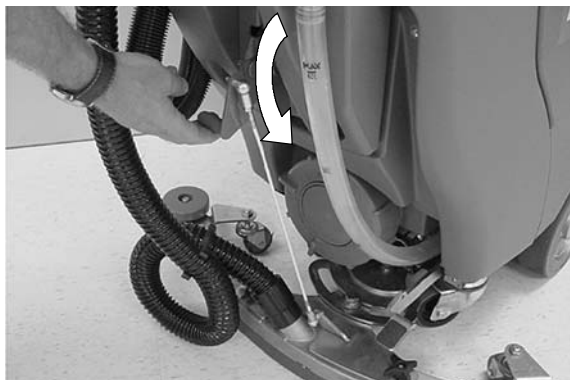

FIG. 16
4. Lower the squeegee assembly to floor by lowering the squeegee lift lever (Figure 16). The vacuum motor will automatically turn on.